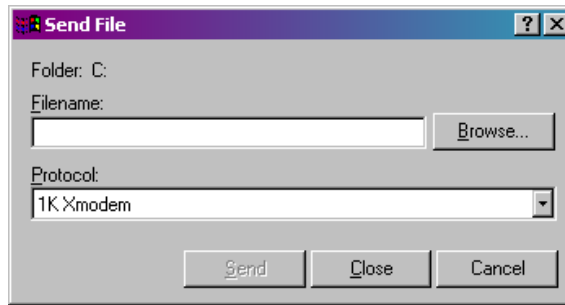
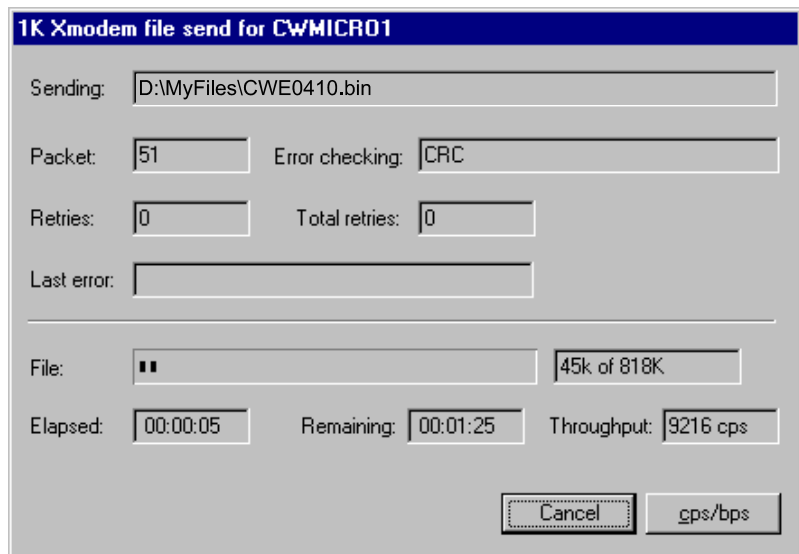

Figure 5-3. Send File dialog box
Figure 5-4. HyperTerminal (Download in Process)
8. In the Send File dialog box (see Figure 5-3), select **1KXmodem** for the protocol, enter the filename of the appropriate .bin file in the format "CWExxxx.bin" (where xxxxx varies from release to release) and click **Send** to start the flash upgrade (see Figure 5-4). When you see the HyperTerminal Mode Menu again, it means the download has completed.